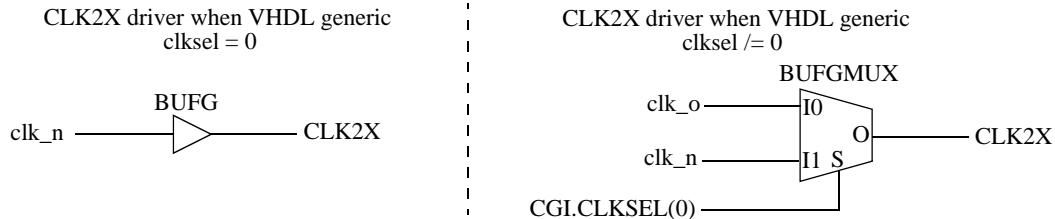
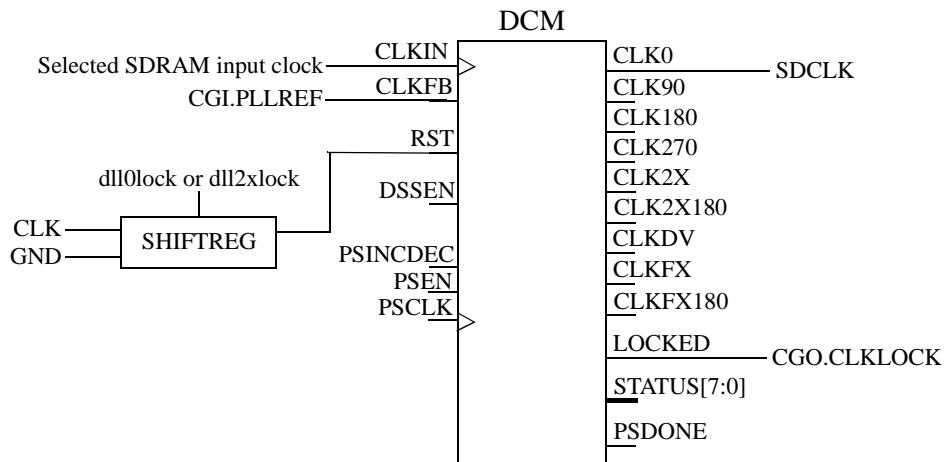

Figure 55. Spartan 3/e selection of CLK2X clock when VHDL generic *clk2xen* is non-zero
Figure 58. Spartan 3/e generation of SDRAM clock
shift register connected to the CLK2X DCM's RST input are set to '1'. When the dll0lock signal is asserted it will take four main clock cycles until the RST input is deasserted. Depending on the value of the *clksel* VHDL generic the core's CLK2X output is either driven by a BUFG or a BUFGMUX. Figure 55 shows the two alternatives and how the CGI.CLKSEL(0) input is used to selected between the CLK0 and CLK2X output of the CLK2X DCM.
If the SDRAM clock is enabled, via the *sdramen* VHDL generic, and the clock generator is configured to use clock feedback the DCM shown in figure 58 is instantiated. This DCM has the same attributes as the CLK2X DCM. The input to the SDRAM DCM input clock is determined via the *clk2xen* VHDL generic. If the VHDL generic is set to 0 the input is the main CLK, if the generic is set to 1 the input is the *clk_p* out of the CLK2X DCM shown in figure 55. If the *clk2xen* VHDL generic is set to 2 the clock input to the SDRAM DCM depends on the *clksel* VHDL generic. The input in this last case is the CLK2X output shown in figure 57.
If the SDRAM clock is disabled (*sdramen* VHDL generic set to 0) or the core has been configured not to use clock feedback (*noclockfb* VHDL generic set to 1) the driver of the core's SDCLK output is determined by the value of the *clk2xen* VHDL generic. If the *clk2xen* VHDL generic is set to 2, the SDRAM clock output is the same as the CLK2X output shown in figure 55, in other words it also depends on the *clksel* VHDL generic. If the *clk2xen* VHDL generic has any other value the SDCLK output is the same as the core's CLK output.